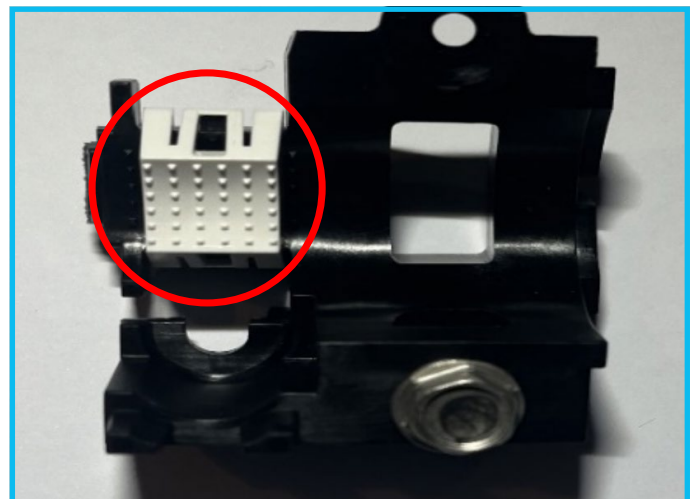

Figure 5.2
3. When installing and cable with an inner sheath diameter less than 14mm (0.55"), install the supplied white spacer as shown. 432f and 48f will require the spacer [figure 5.2].